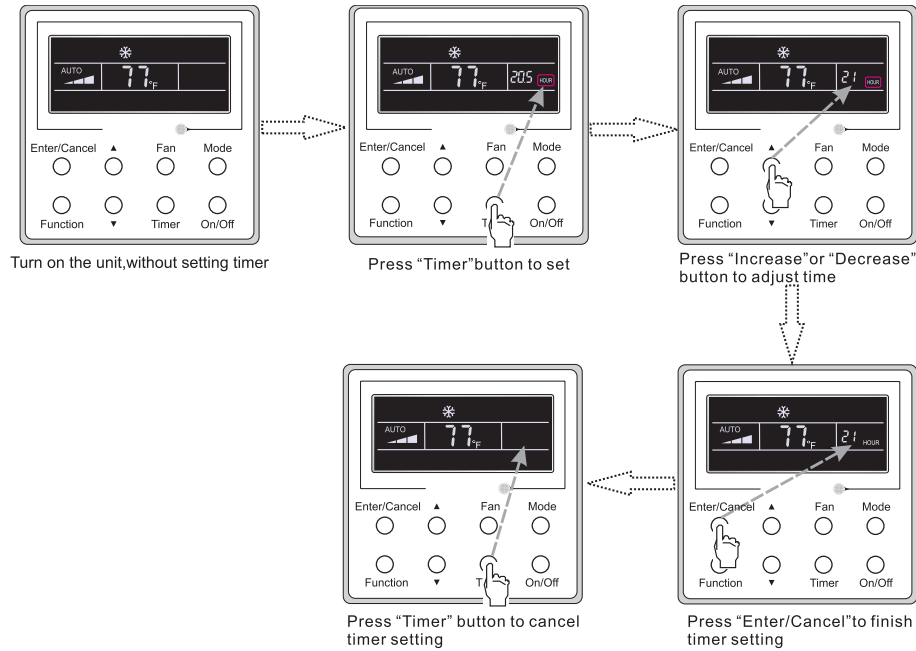

Fig. 11 — Timer off Setting under the unit's ON state
- TIMER OFF** mode: Press **TIMER**, if LCD does not display **xx.x hour**, it means the timer setting was cancelled (Fig. 11 displays the **TIMER OFF** setting, under the **ON** state).